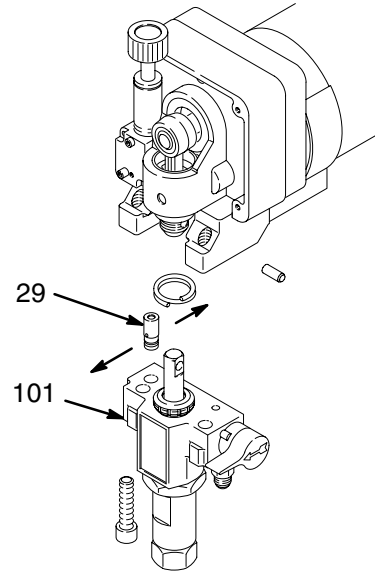

Fig. 27
6. Align the holes in the transducer as shown by the arrows in Fig. 27.
**NOTE:** See Fig. 27 for this procedure.
2. Use a pull-twist motion to remove the transducer (29) from the pump manifold (101).